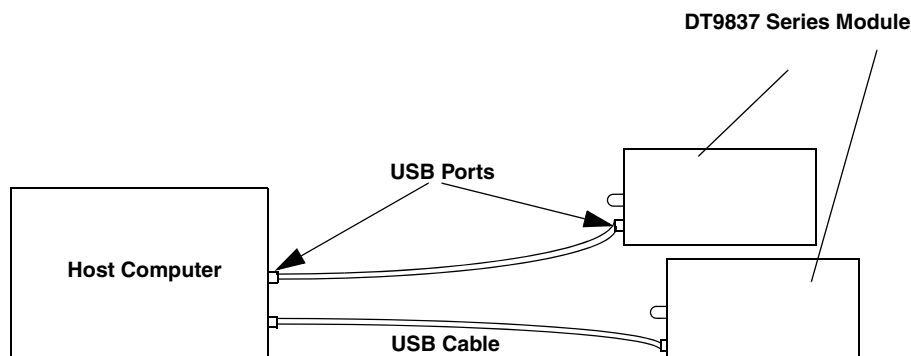

Figure 7: Attaching the Module to the Host Computer
2. Attach the other end of the USB cable to one of the USB ports on the host computer, as shown in Figure 7.